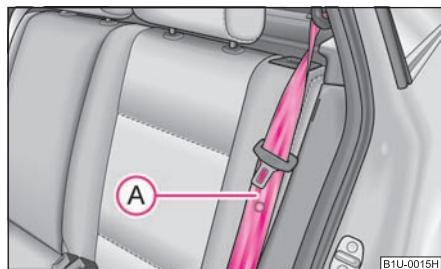

Fig. 61 Lock the seat backrest
- Place the rear lateral seat belt (A) ⇒ fig. 61 behind the edge of the side trim panel.